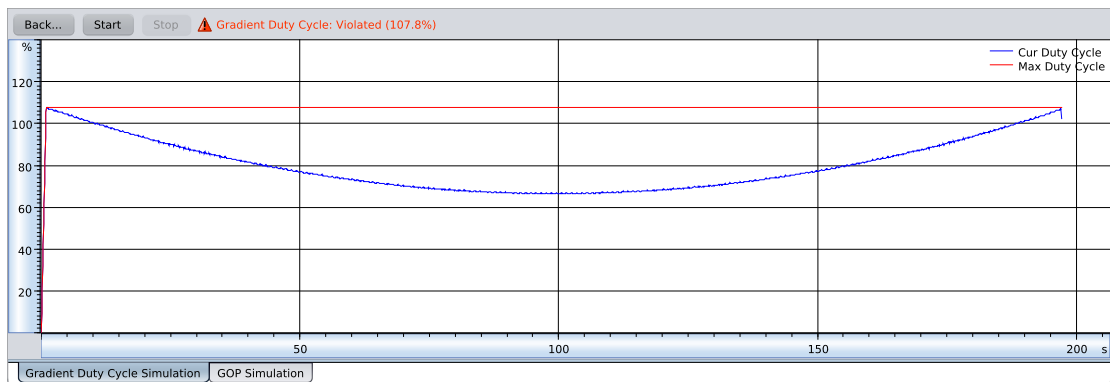

Figure 1.65: Gradient Duty Cycle Simulation (Finished)
- The **Start** and **Back...** buttons are disabled, the **Stop** button is enabled. While the simulation is running two curves are drawn. One curve shows the current gradient duty cycle at the examination time shown on the x-axis while the other curve shows the maximum duty cycle reached until that time. When the simulation is finished a simulation result is displayed and the **Start** and **Back...** buttons are enabled again (see [Figure 1.65 \[▶ 79\]](#)).